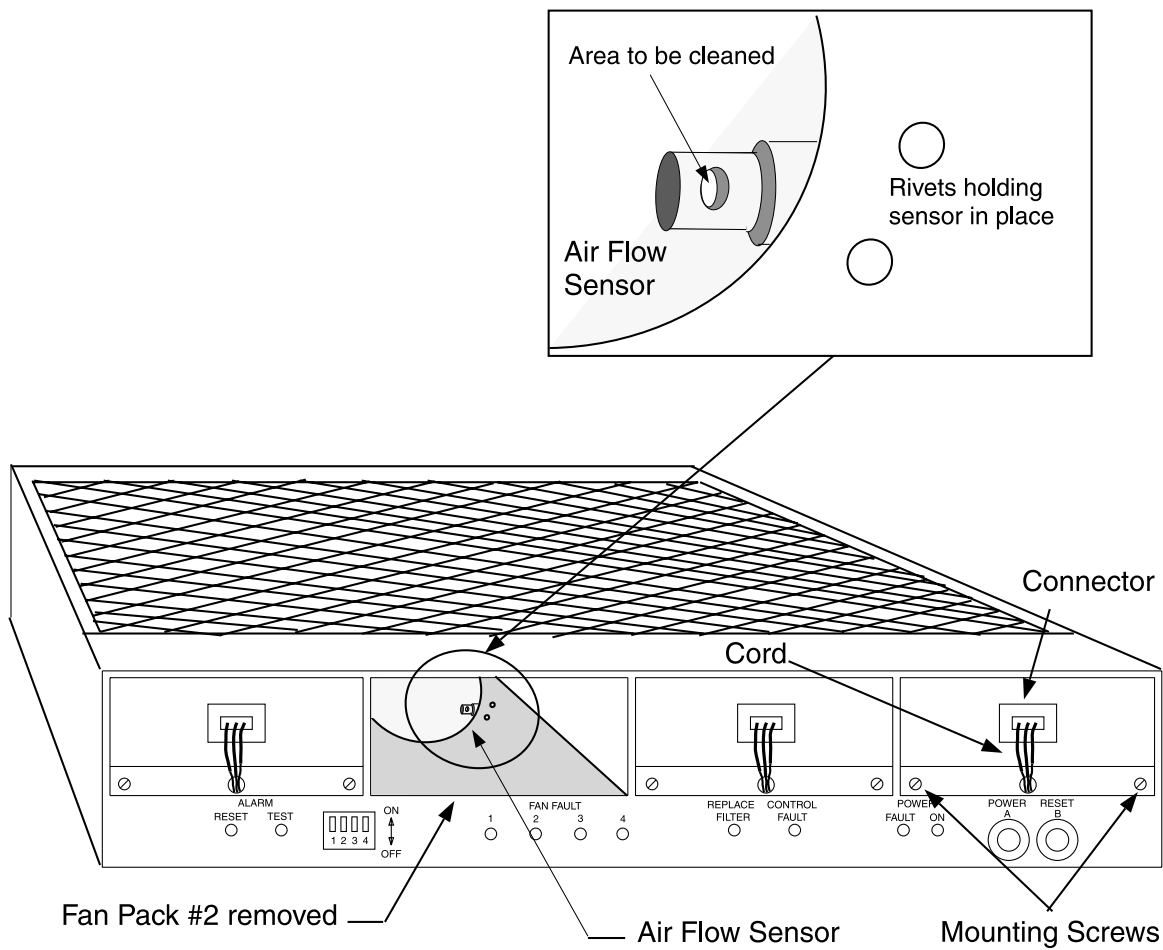

Figure 2 - DDM-2000 Fan Shelf — Air Flow Sensor Location
Remove fan pack #2. See Figure 2.
29. Locate air flow sensor (Figure 2) and direct a gentle blast of clean dry air toward the center of the vertical sensor orifice.